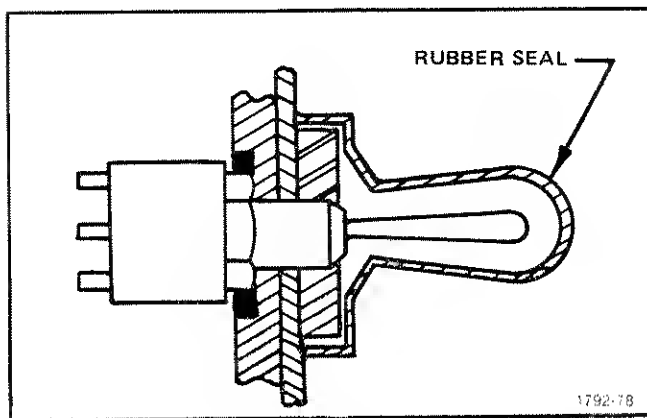

Fig. 5-25. Installation of rubber Cap-Seal on RECORD toggle-switch.
5. Install the cap-seal on the toggle switch (see Fig. 5-25).